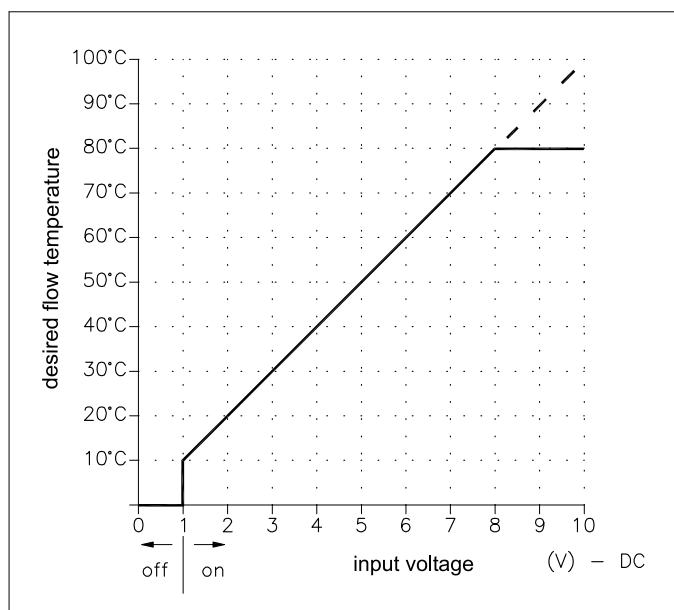

fig. 20 Temperature control via analog (0-10 Volt) signal
**Temperature based** (20 to 90 °C) set the  $\boxed{X}$  value of the boiler control operation parameter  $\boxed{R_1}$  to  $\boxed{4}$ . To set the ratio between voltage and the desired flow temperature (see par. 13.2.5 and fig. 20).